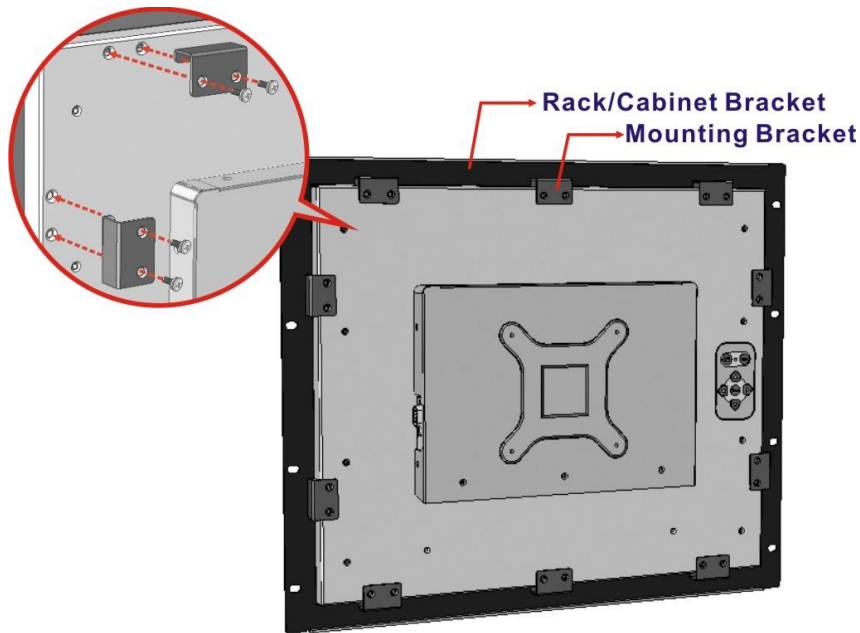

Figure 3-36: Secure the Mounting Brackets
Step 2: Secure the rack/cabinet bracket to the monitor. To do this, secure the 10 mounting brackets to the corresponding screw holes on the rear of the monitor using the provided retention screws (**Figure 3-36**).